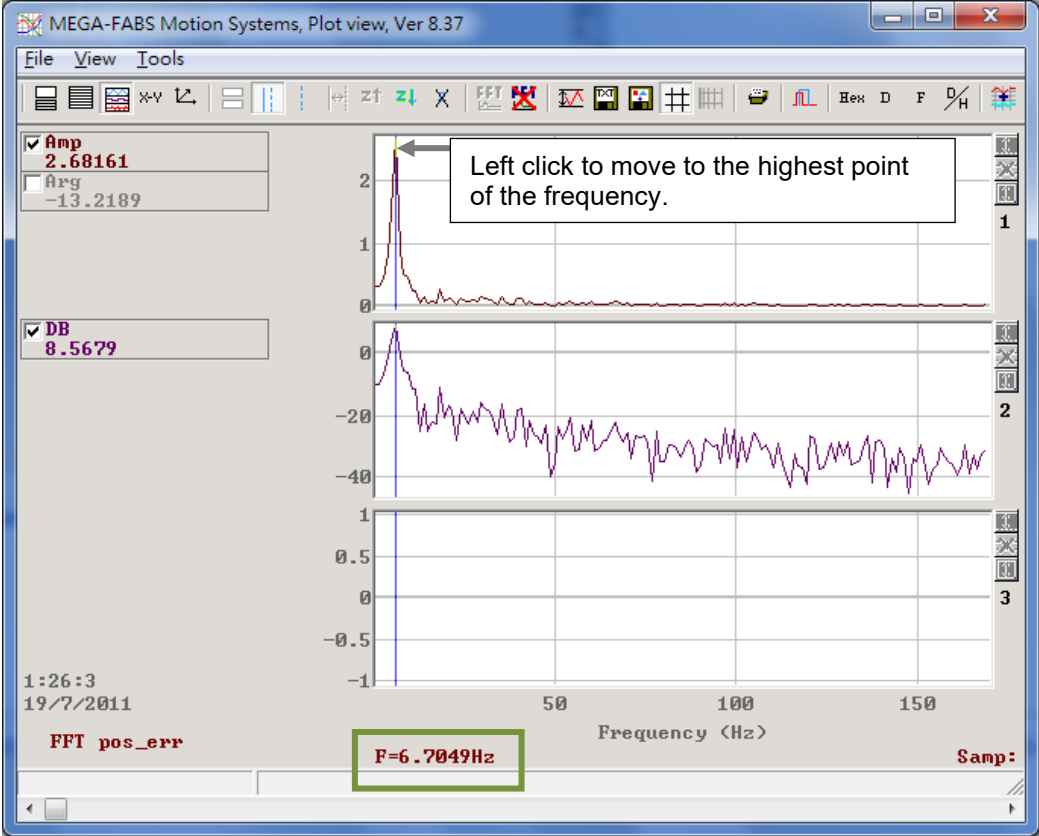

Figure 10.6.4.4
- Step 8: Set the frequency (In figure 10.6.4.4, the frequency is 6.7 Hz.) of low-frequency vibration in vibration suppression frequency (Pt14A). Set vibration suppression compensation (Pt14B). The higher the value, the greater the effect. Users can use the default value for testing first.